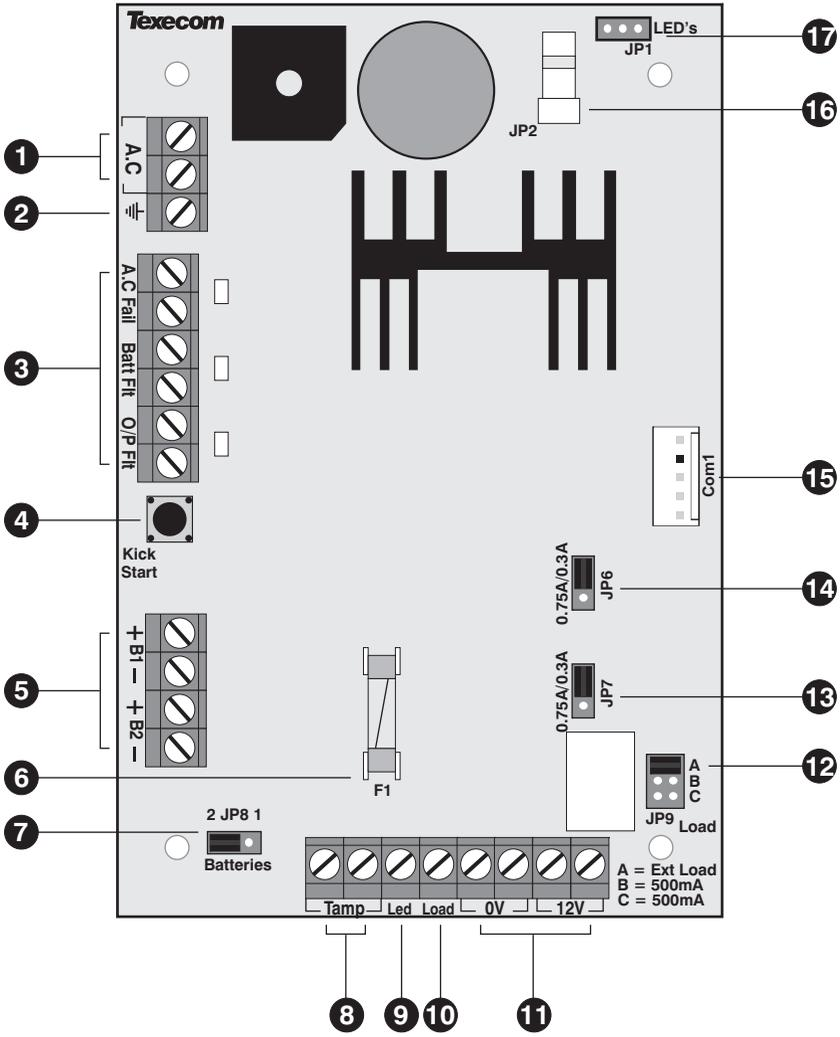

Figure 2. PCB Layout
The "Alert" indication can be disabled by applying 0V to the "LED" terminal (see item ⑨ of Figure 2)
If an external load is used it must be connected between the "Load" and "12V" terminals (see items ⑩ and ⑪ of Figure 2).